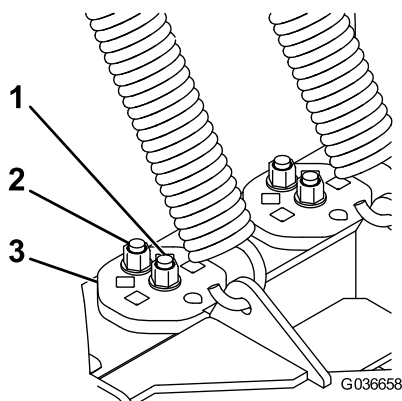

Figure 31
3. On the cams, remove the bolt in the square hole and loosen the bolt in the center (Figure 31).